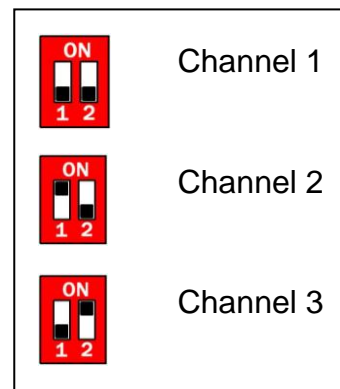

Fig. 15
13. There is a channel select switch on the circuit board and the remote control. The remote control must be set to the same channel (1, 2 or 3) as the robot to be able to control it. If you are playing with your friends, each must choose a different channel so that one will not interfere with the other units. (Fig. 15)